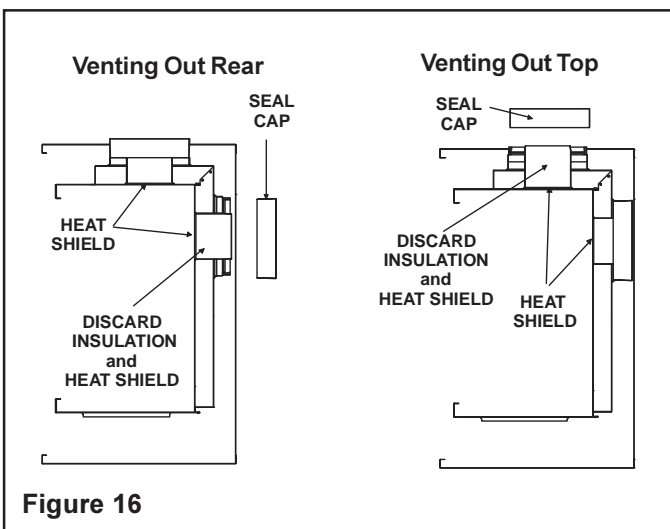

Figure 16
Remove the installed rear seal cap from the rear starting collars by removing screws (see Figure 16). Follow the vent configuration tables accordingly.
**WARNING: THE TOP HEAT SHIELD (INSIDE THE FIREBOX) MUST REMAIN ATTACHED IF THE VENT SYSTEM IS ATTACHED TO THE REAR STARTING COLLARS. SEE FIGURE 16.**
Remove the screws in the top vent collar seal cap and remove the top vent collar seal cap and insulation inside the top starting collar (See Figure 16).